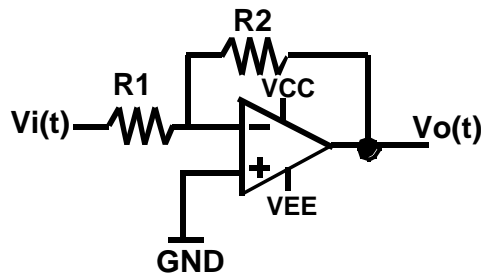

Figure 1. Inverting amplifier.
For the circuit in figure 1 with power supplies $V_{CC} = 12\text{ V}$, $V_{EE} = -12\text{ V}$, and assuming the opamp is ideal, answer the following questions:
Build the circuit in Figure 1 using power supplies $\pm 12\text{ V}$ and the resistor values from your design in the Pre-lab, section 6.1 item 1.